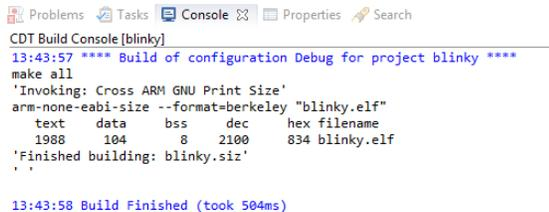

Figure 14. Example of Build Output
2. When the build is running, the output of the build is shown in the Eclipse C/C++ Development Tooling (CDT) Build Console, as illustrated in Figure 14.